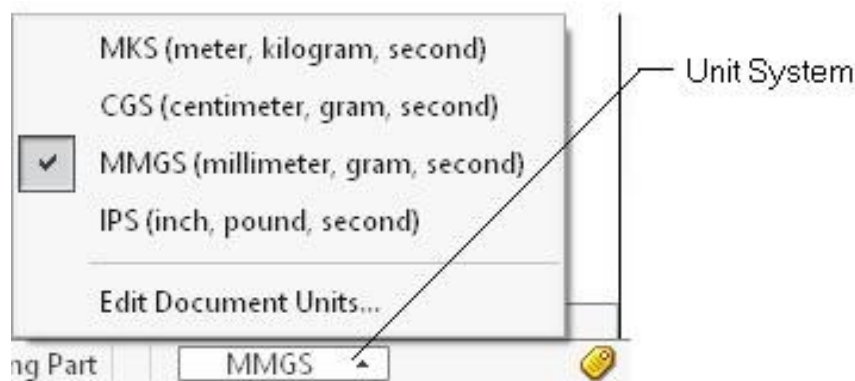

Figure 2-19 The flyout showing the currently selected unit system
1. Click on the **Unit system** that is located towards right in the Status Bar; a flyout is displayed with a tick mark next to the unit system of the current document, refer to Figure 2-19.